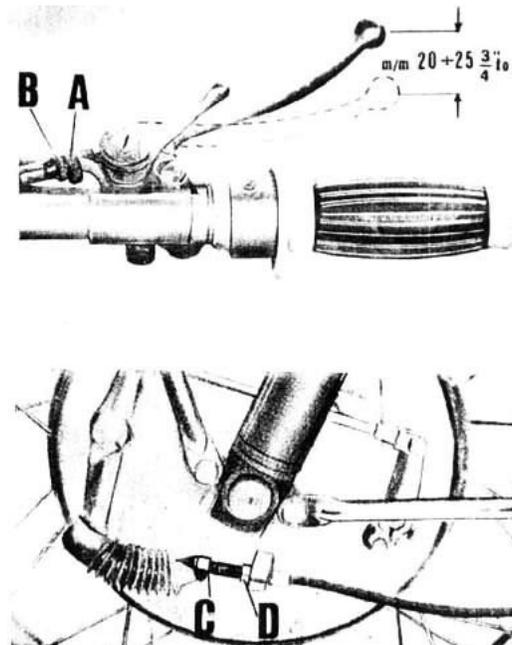

Fig. 32
**Front brake lever (See fig. 32)**